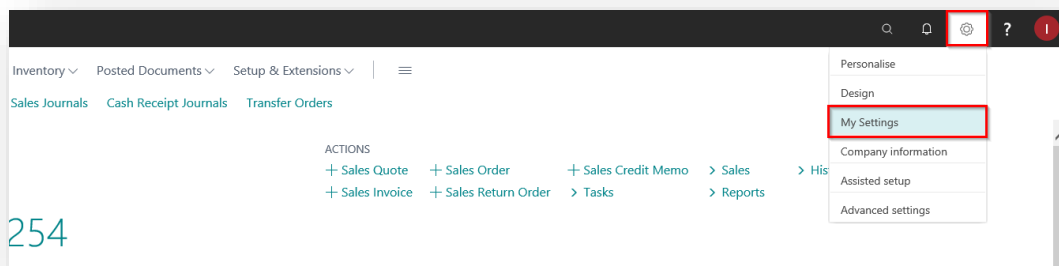

Figure 4-3
1. From your Dynamics 365 Business Central Web Client, in the app bar, select the **Settings** icon and then select **My Settings** (*Figure 4-3*).